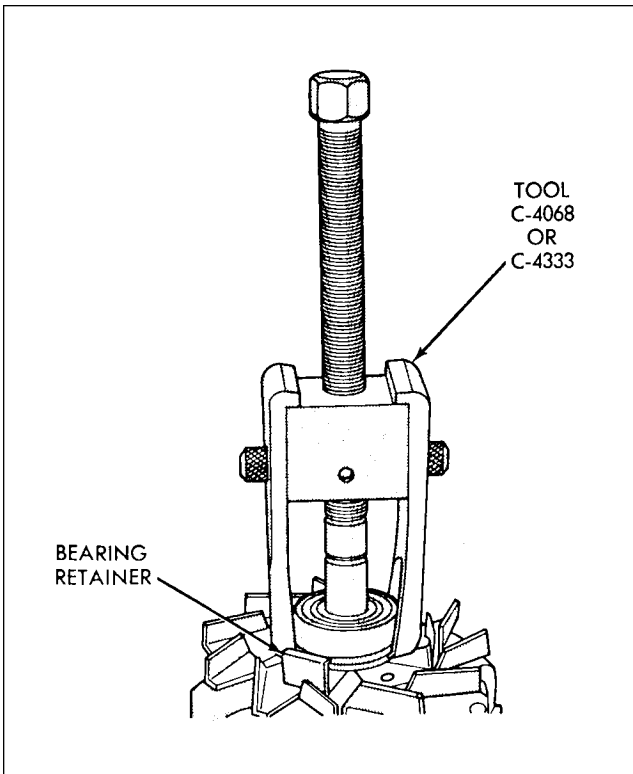

Figure 24-14. Removal of Bearing
5. Remove drive end ball bearing with Puller Tool C-4068. (Refer to Figure 24-14.)